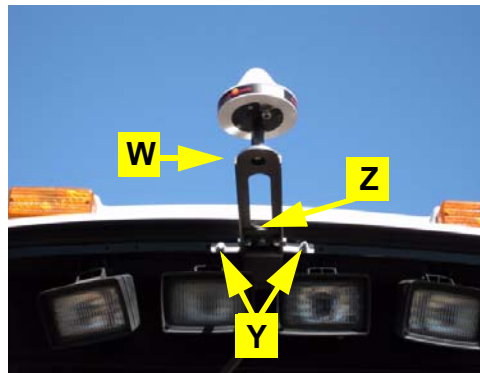

Figure 9c: Installed front antenna bracket
- c. Attach the front antenna bracket **W** with hardware **Z** (Figure 9c).